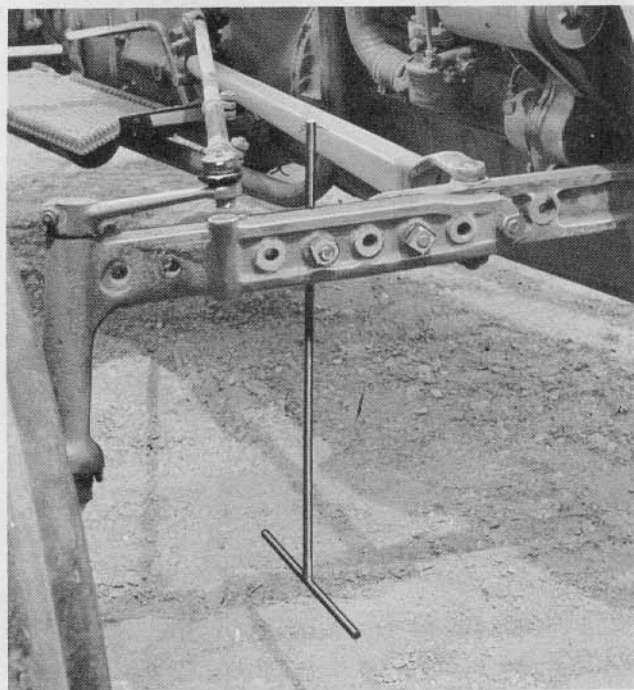

Figure 7
Step 17: Attach steering pointer to right front axle of tractor, as shown in Figure 7.
The steering pointer should be attached to the tractor front axle just above the right row, and centered between the two front sweeps (see Figure 7).